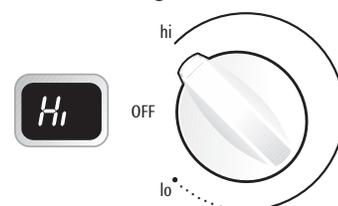

Fig. 2
2. Push in and turn the surface control knob in either direction to the desired setting using the ESEC digital display window to verify (Fig. 2). Turn the knob to adjust the setting as needed.